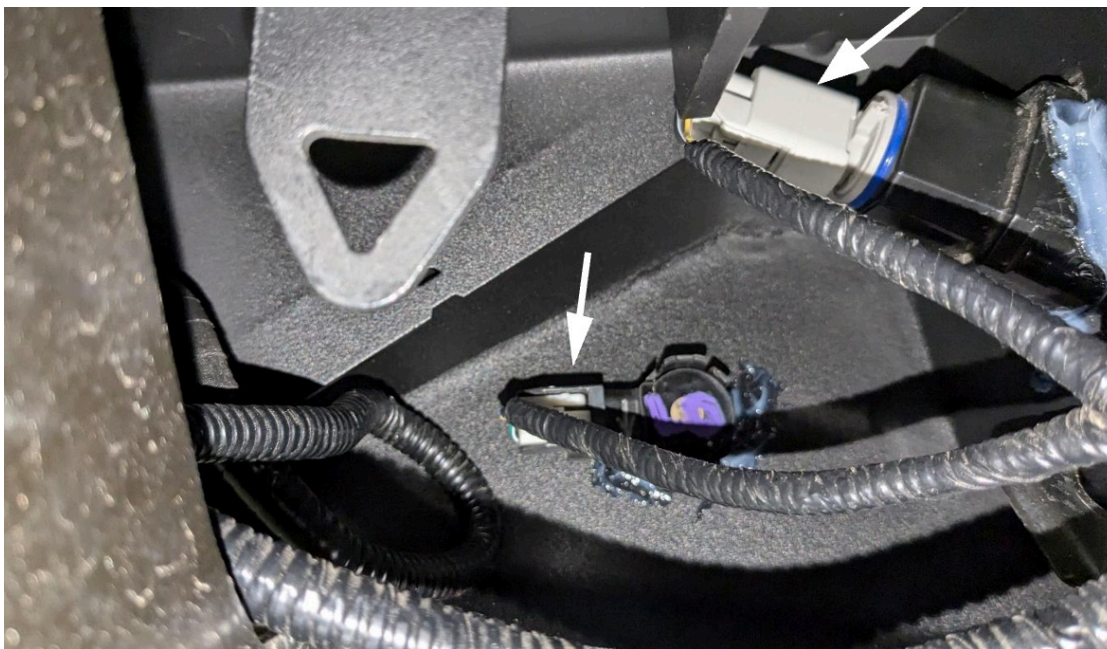

Figure 15
13. Reinstall and connect the sensor wiring harness to the parking sensors and tag lights. (Figure 15)